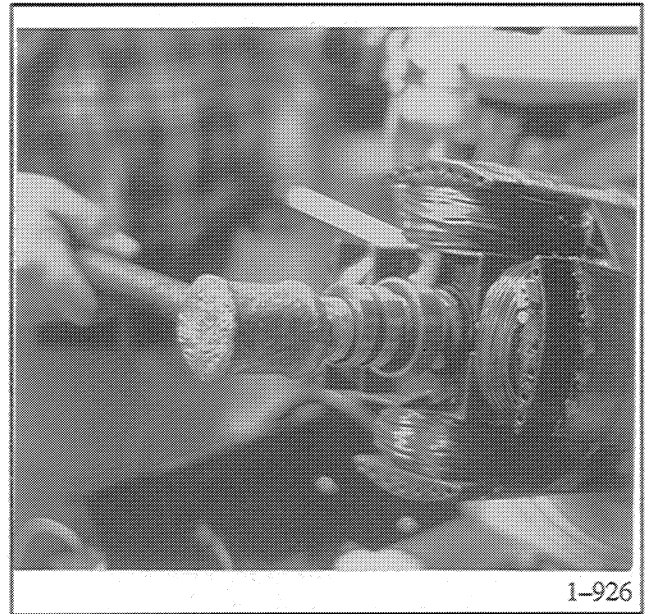

Figure 8-26. Striking Thru-Bolt
31. Strike thru-bolt head with lead hammer using a medium force blow to loosen rotor. If necessary, use prybar or large screwdriver to pry rotor at laminations. See Figure 8-26. Do NOT allow pry tool to contact windings.